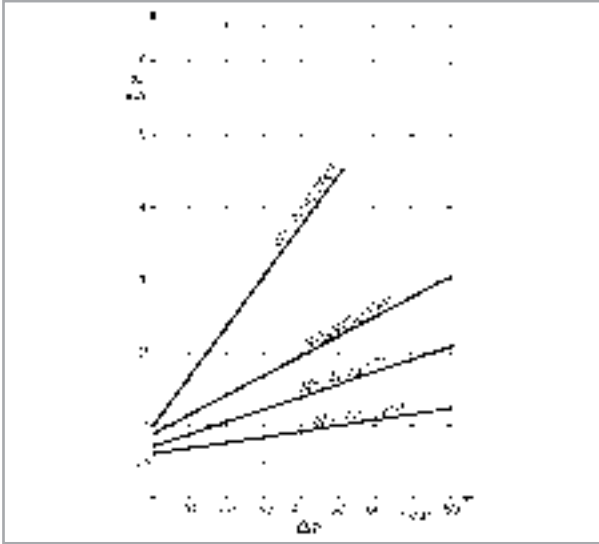

Fig. 1.7 Power consumption of the RUVAC WS/WSU
- the pressure difference between the inlet and the discharge flange (see fig. 1.7)